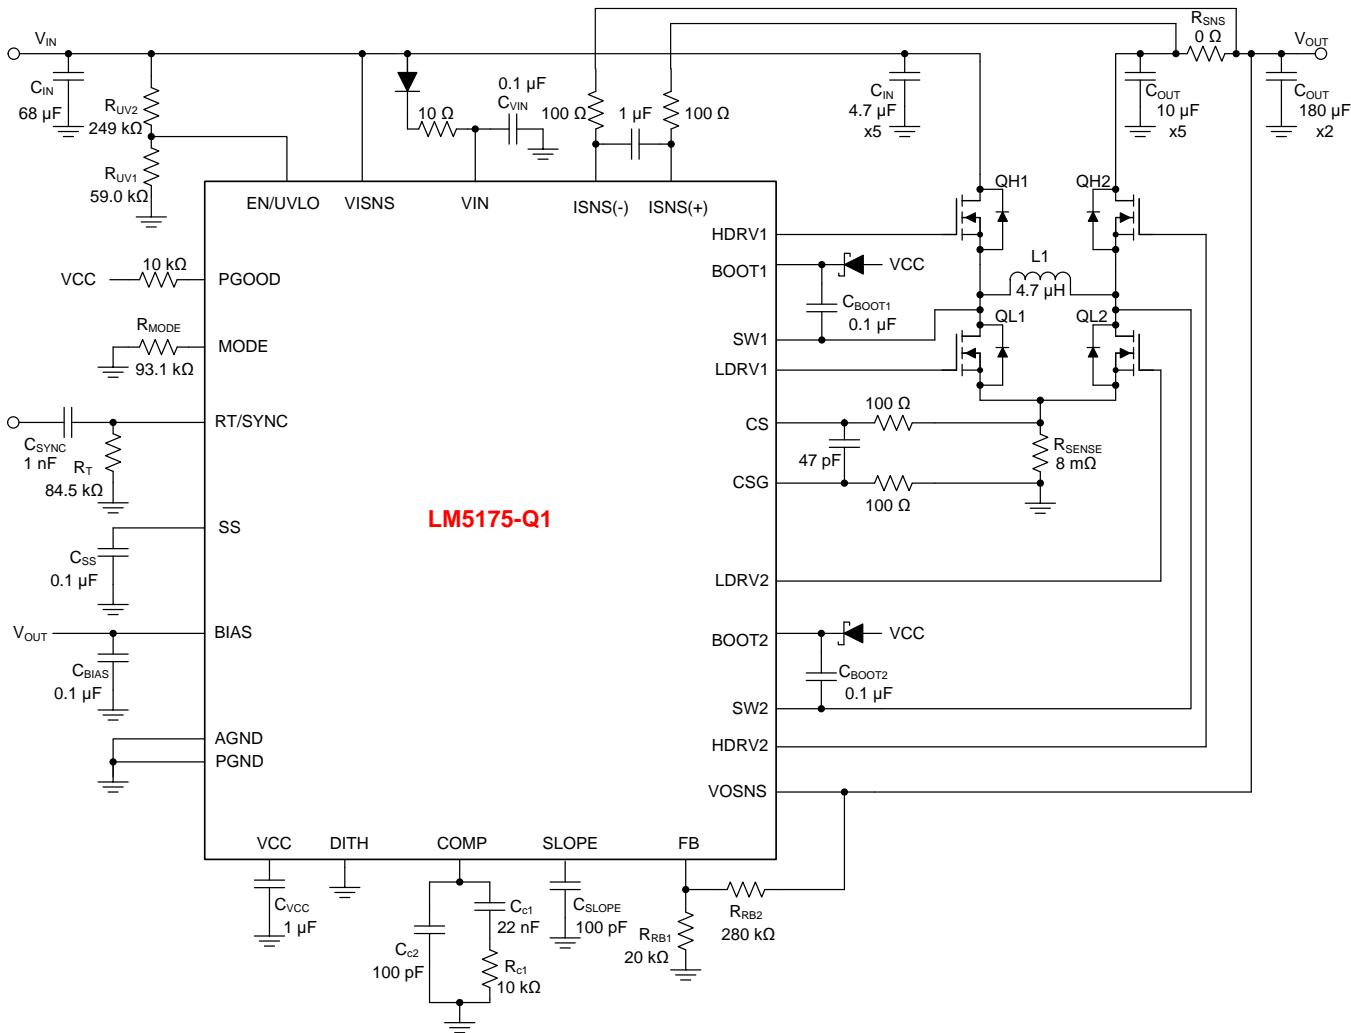

Figure 24. LM5175-Q1 Four-Switch Buck Boost Application Schematic
The LM5175-Q1 has a gm error amplifier for loop compensation. The gm amplifier output (COMP) range is 0.3 V to 3 V. Connect an R_{c1} - C_{c1} compensation network between COMP and ground for type II (PI) compensation (see Figure 24). Another pole is usually added using C_{c2} to suppress higher frequency noise.
The low-side gate drivers are powered from VCC and the high-side gate drivers HDRV1 and HDRV2 are powered from bootstrap capacitors C_{BOOT1} (between BOOT1 and SW1) and C_{BOOT2} (between BOOT2 and SW2) respectively. The C_{BOOT1} and C_{BOOT2} capacitors are charged through external Schottky diodes connected to the VCC pin as shown in Figure 24.
Typically a combination of ceramic and bulk capacitors is needed to provide low ESR and high ripple current capacity. The complete schematic in Figure 24 at the end of this section shows a good starting point for C_{OUT} for typical applications.
The maximum RMS current occurs at $D = 0.5$, which gives $I_{CIN(RMS)} = I_{OUT}/2 = 3$ A. A combination of ceramic and bulk capacitors should be used to provide short path for high di/dt current and to reduce the output voltage ripple. The complete schematic in Figure 24 is a good starting point for C_{IN} for typical applications.
For some application circuits, it may be required to add a filter network to attenuate noise in the CS and CSG sense lines. Please see Figure 24 for typical values. The filter resistance should not exceed 100Ω .